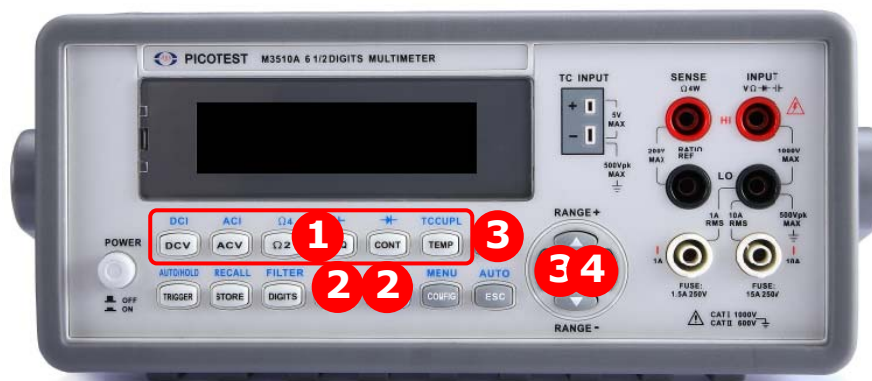

Figure 4-21
1. Press one of the measurement function buttons to select a measurement function as shown in **Figure 4-21**.